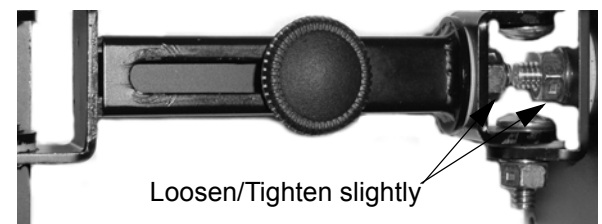

Figure 5. Rotation Adjustment Nuts
1. Using a 7/16" wrench, slightly tighten or loosen lateral tension adjustment nut (see Figure 5).